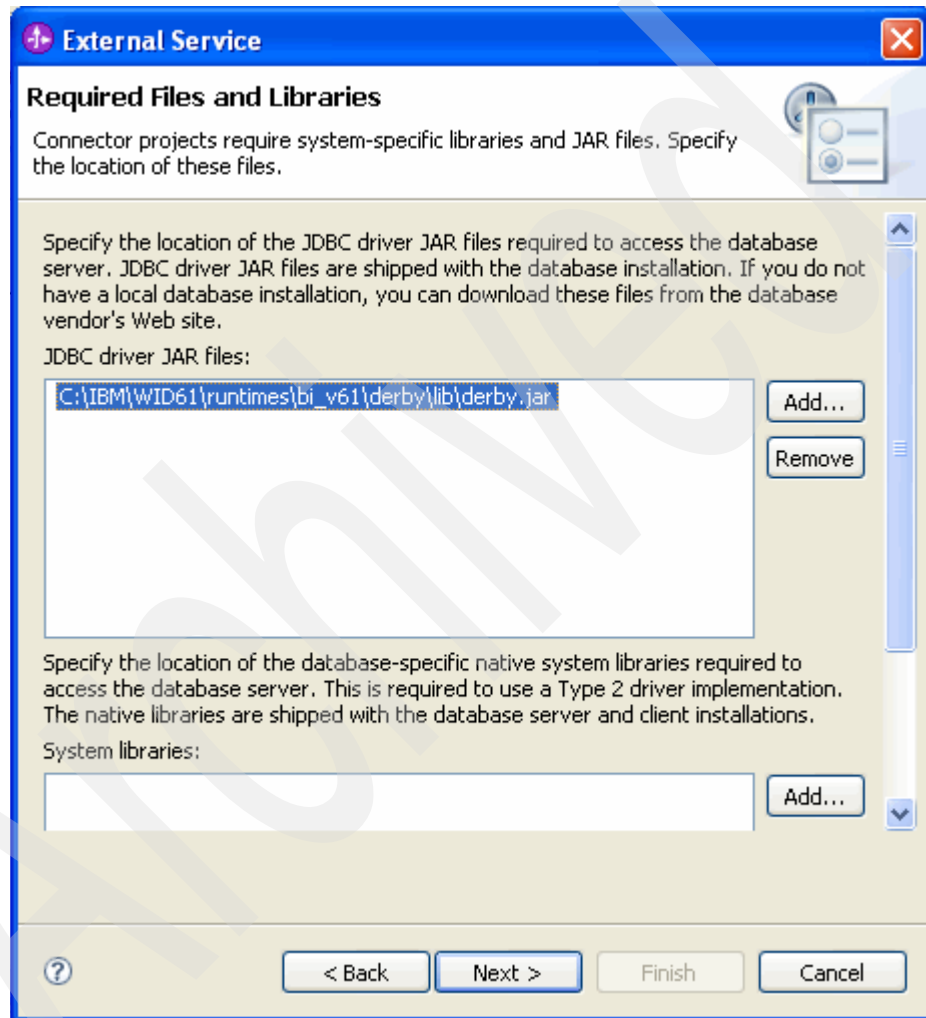

Figure 5-1 Select the Derby JDBC driver
4. Click **Add** to the right of the JDBC driver JAR files list (as shown in Figure 5-1). Browse to WID\_ROOT\runtimes\bi\_v6\derby\lib and select the derby.jar file. This JAR file contains the JDBC driver for accessing a Derby database. Click **Next**.